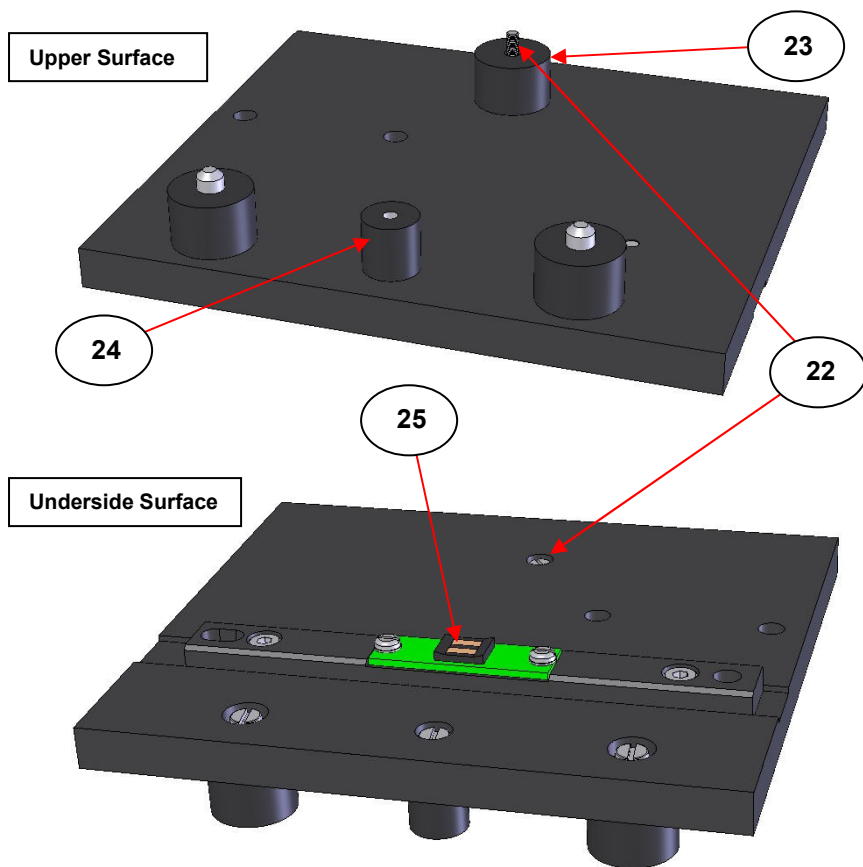

Fig 3. Benchmark Baseplate P/N 549-456
The Benchmark™ baseplate P/N 549-456 supplied for installation of the Quest ATR Accessory into the sample compartment of a Shimadzu IR-Affinity and/or Tracer 100 spectrometer system is shown in **Fig 3**. Both the upper and underside surfaces are shown.
In reference to the underside surface of the Benchmark™ baseplate (see **Fig 3**), there is a location bar where the integrated circuit (IC) recognition chip contact point (**25**) is affixed. The complete assembly of Quest ATR Accessory on the Benchmark™ baseplate is carefully lowered into place within the sample compartment such that the location bar and IC chip contact point (**25**) engage centrally and towards the front of the sample compartment with the chip connection point in the grooved recess channel of the floor of the sample compartment. The whole Quest ATR Accessory on the Benchmark™ baseplate will sit flat and evenly level with the floor of the sample compartment when the location bar and chip contact point (**25**) components are properly engaged.